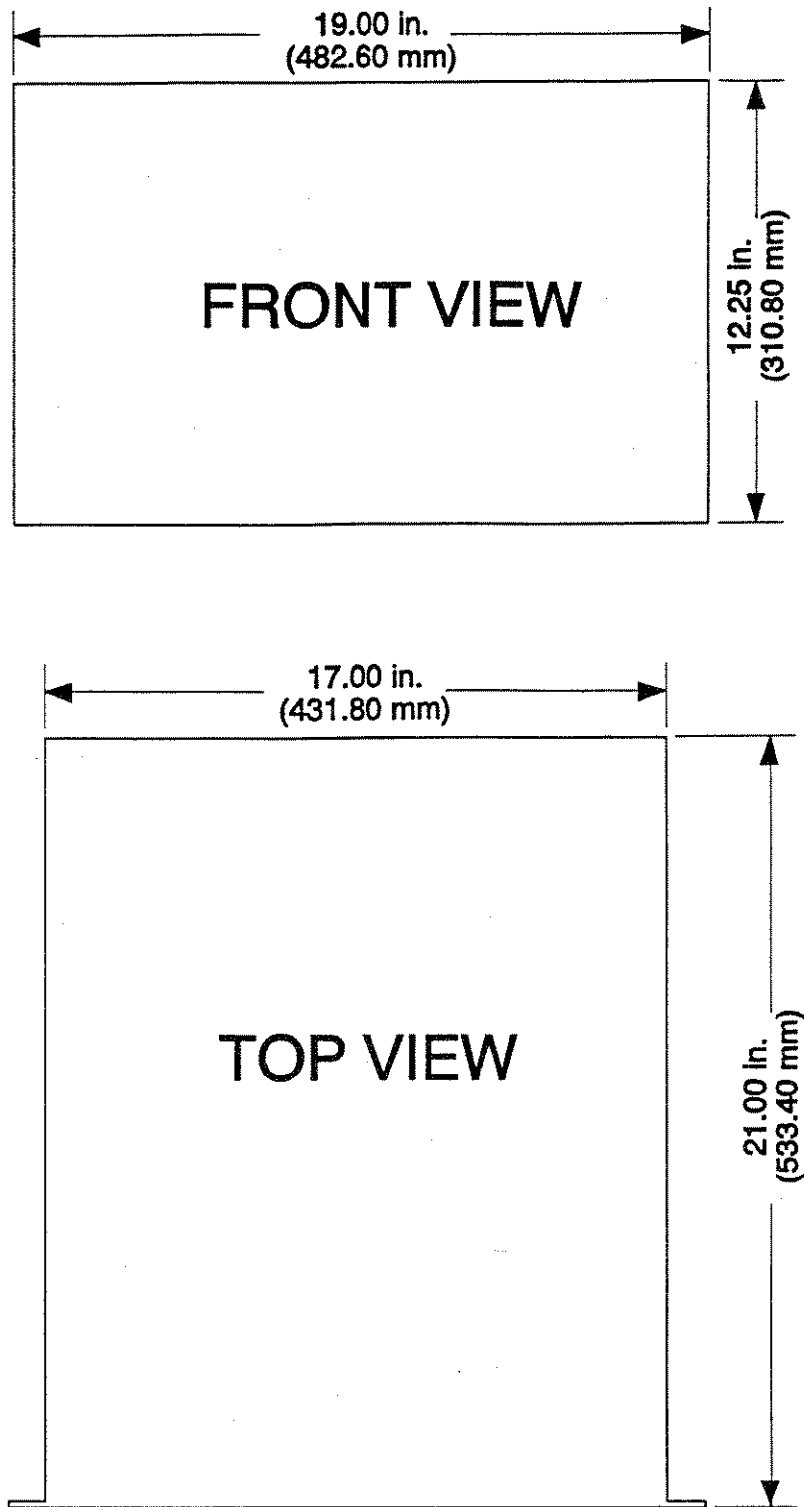

Figure 2-14. Model 1751SX Installation Dimensions
The Model 1751SX AC Power Source is designed for installation in a standard 19" (483 mm) instrument rack (refer to Figures 2-14 through 2-16 for outline drawings, mounting dimensions and the location of controls and connectors).
1. Before installing the power source, verify that the input and output voltage ranges are compatible with the available utility power and the output voltage application. Refer to Figures 2-14 and 2-15, Table 2-1, and the unit serial number tag for model number information.